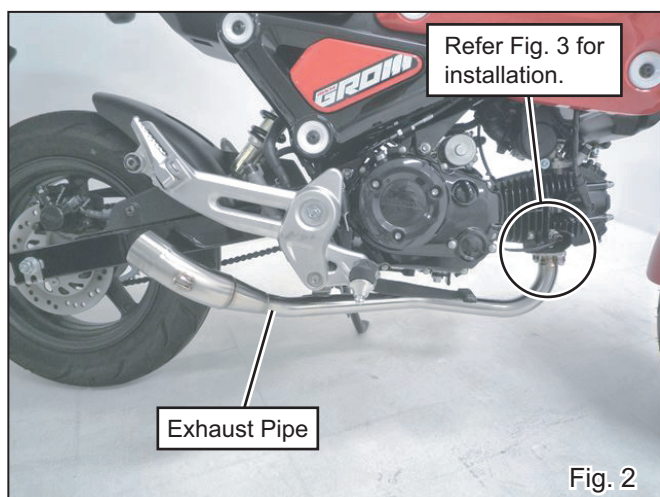

Fig. 2
- 3) Replace stock gasket at exhaust port of engine with new one. Then mount Exhaust Pipe and tighten with stock nuts by hand only at this stage. (See Fig. 2 & 3)